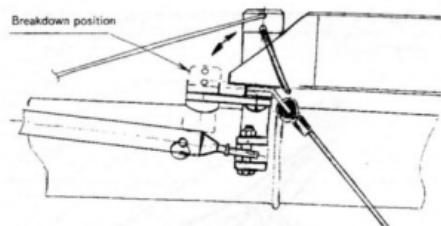

Fig. 2
2.1.5. Install the dive sticks to the corresponding places on the LE-tube/X-beem junctions. Attach the dive sticks using pins and safety rings (Fig. 2). The dive sticks must be outside of the bottom surface.